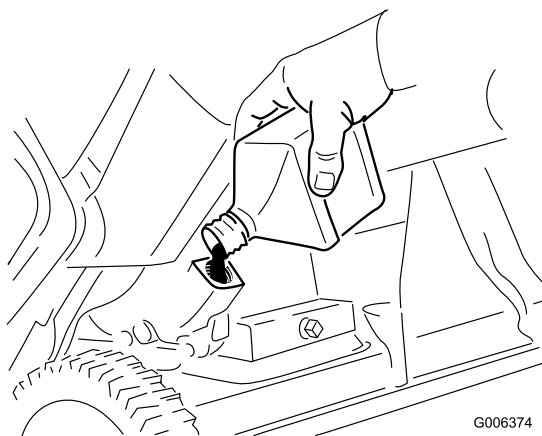

Figure 32
8. With the machine in the operating position, **carefully** pour oil into the oil fill hole to the point of overflow (Figure 32).